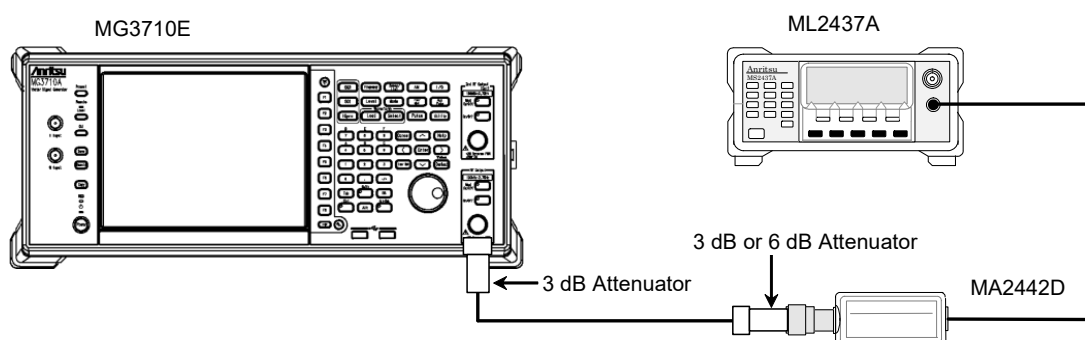

Figure 5.3.2-1 Signal Generator Calibration Setup (MOD)
1. Setup the instruments as shown in Figure 5.3.2-1.
2. Output the following modulated signal from the Vector signal generator (SG)